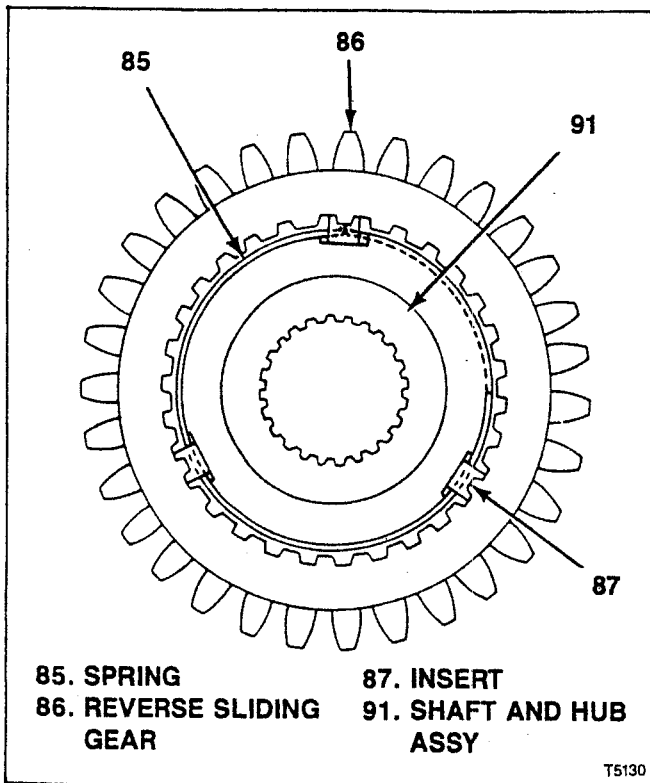
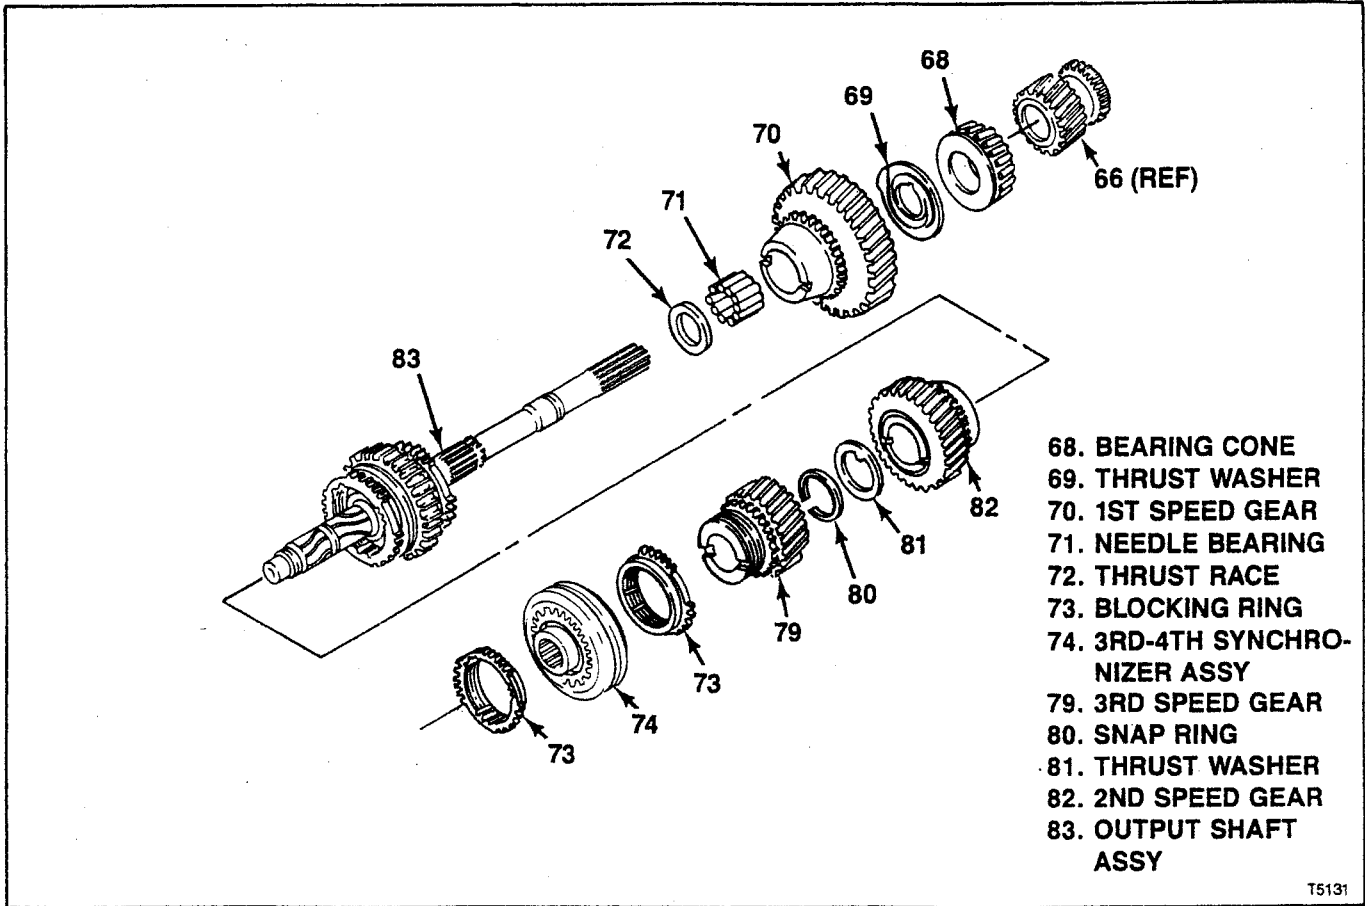
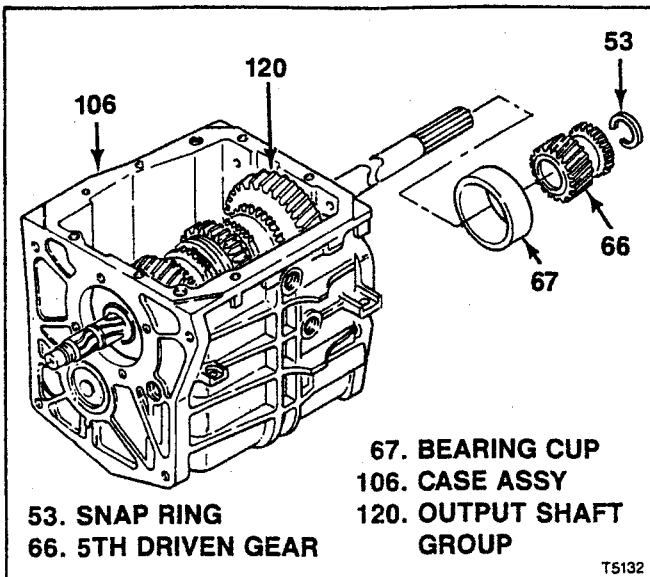

Figure 7-8. T5 NWC Reverse Sliding Gear Assembled
Figure 7-9. Assembly of T5 NWC Output Shaft Group
Figure 7-10. Installation of T5 NWC Output Shaft Group
a. Depending on which is used, install pin (88), or spring (90) and ball (89) in shaft and hub assembly (91) and hold in place.
b. Be sure to assemble reverse sliding gear (86) and hub on shaft and hub assembly (91) aligning marks made at disassembly (see figure 7-8) so that clutch teeth and part faces are assembled exactly as they were originally.
c. Start reverse sliding gear (86) onto hub on shaft and hub assembly (91) to a position that will just permit installation of inserts (87). Install inserts (87) then engage clutch teeth fully.
d. Hook one end of one spring (85) under one of the inserts (87) and wrap around inside, under all three inserts. Hook other end of spring under insert (see figure 7-8).
e. At other side of assembly hook remaining spring (85) under opposite end and side of same insert (87) where step d was started but wrap around inside in opposite direction from step d, under all three plates. Hook other end of spring under insert (99) (see figure 7-8).
f. Position reverse sliding gear (86) and inserts (87) so that all inserts snap into neutral position.
g. At each end of shaft and hub assembly (91) install 1-2 blocking ring (84). Be sure to align blocking ring notches with inserts (87).
7-11. ASSEMBLY OF T5 NWC OUTPUT SHAFT GROUP. After assembly of output shaft assembly (83) as described in paragraph 7-10, proceed as follows (see figure 7-9):
a. Install 2nd speed gear (82), thrust washer (81) and snap ring (80).
b. Install 3rd speed gear (79) and one blocking ring (73).
c. Install 3rd-4th synchronizer assembly (74) (as assembled in paragraph 7-6), aligning notches in installed blocking ring (73) with synchronizer inserts. Use a suitable drift that bears on synchronizer hub only.
d. Install remaining blocking ring (73), aligning notches with inserts in installed 3rd-4th synchronizer assembly (74).
e. At other end of assembly, install thrust race (72) and needle bearing (71).
f. Install 1st speed gear (70), thrust washer (69) and bearing cone (68). Use 5th driven gear (66) and suitable drift to press bearing on cone until it is fully seated. Bearing cone is fully seated when shaft snap ring groove is accessible at outside end of 5th driven gear. Remove drift and 5th driven gear.
7-12. INSTALLATION OF T5 NWC OUTPUT SHAFT GROUP. After assembly of output shaft group (120) (paragraph 7-11), install as follows (see figure 7-10):
a. Tilt rear end of output shaft group (120) down and install through top opening and out rear of transmission case (106). Rest output shaft group on countershaft previously installed.
b. At rear of transmission case (106), install bearing cup (67), 5th driven gear (66) and one snap ring (53).